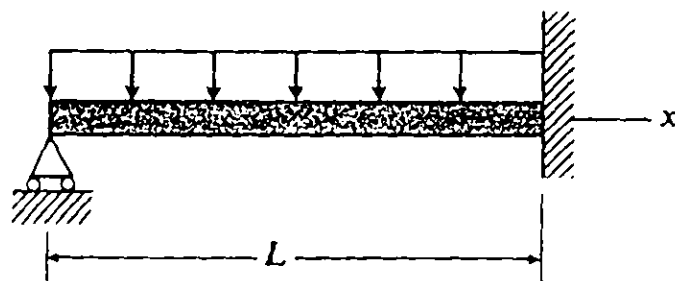

Figure 3
- (35) 2. The problem illustrated in Figure 3 is modelled using Timoshenko beam theory. Within the assumptions of this theory, the Total Potential Energy is